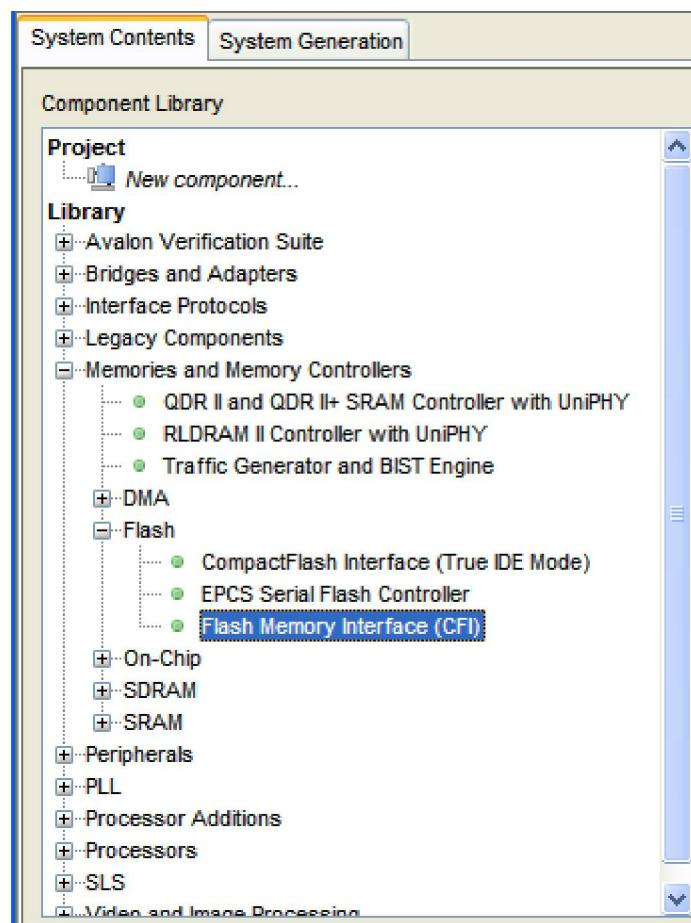
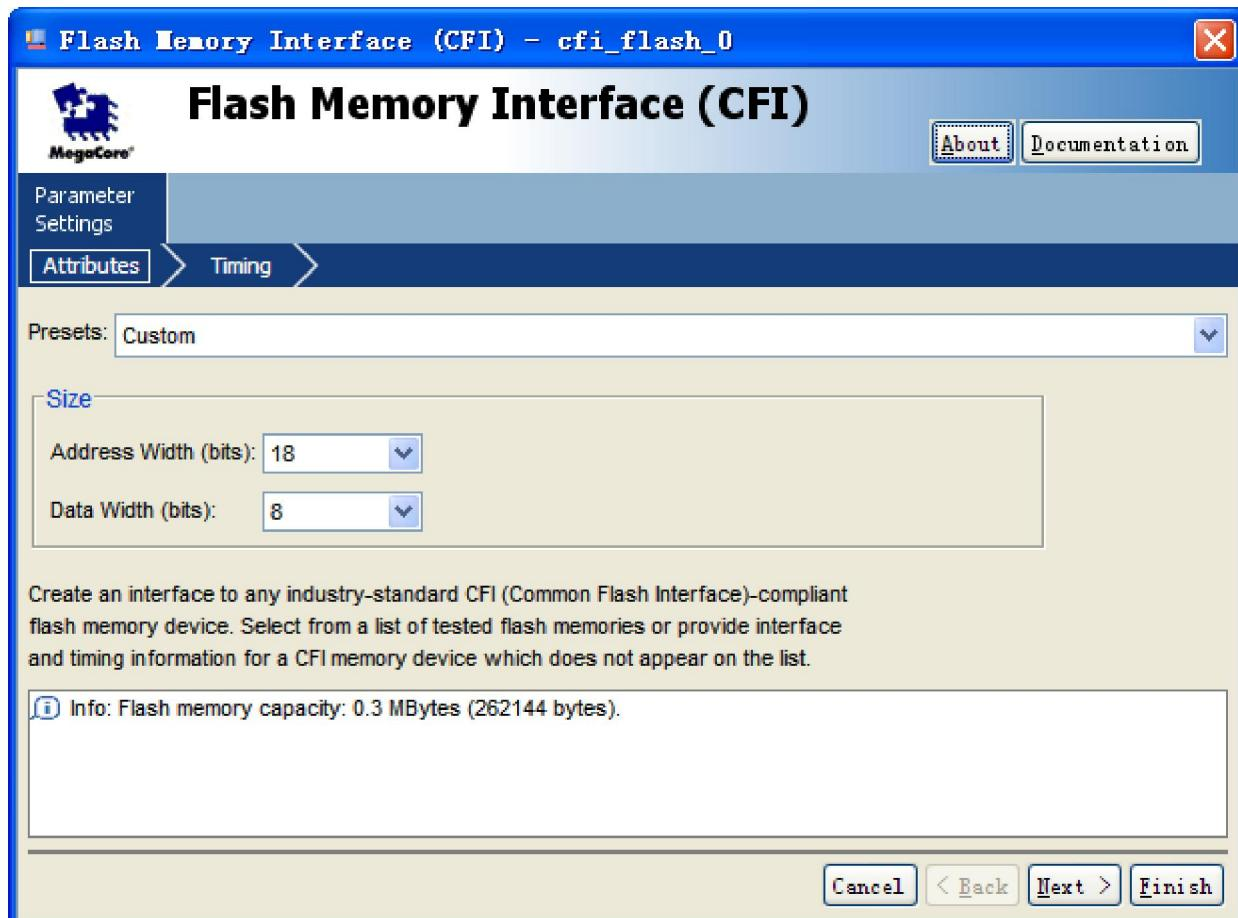

Figure 3-5 Flash Memory Interface (CFI)
Figure 3-6 Flash Memory Interface (CFI) Box
4. Choose **Library > Memories and Memory Controllers > Flash > Flash Memory Interface (CFI)** to open Flash Memory Interface (CFI) wizard. See **Figure 3-5** and **Figure 3-6**.